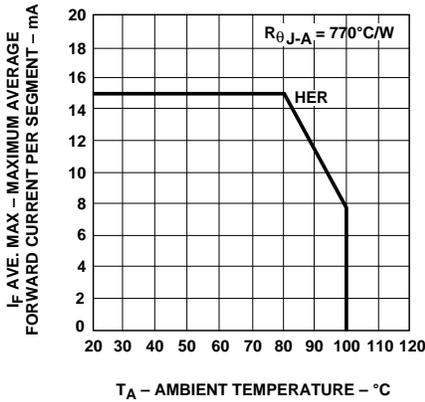

Figure 10. Maximum Allowable Average or DC Current vs. Ambient Temperature.
5. See Figure 10 to establish pulsed conditions.